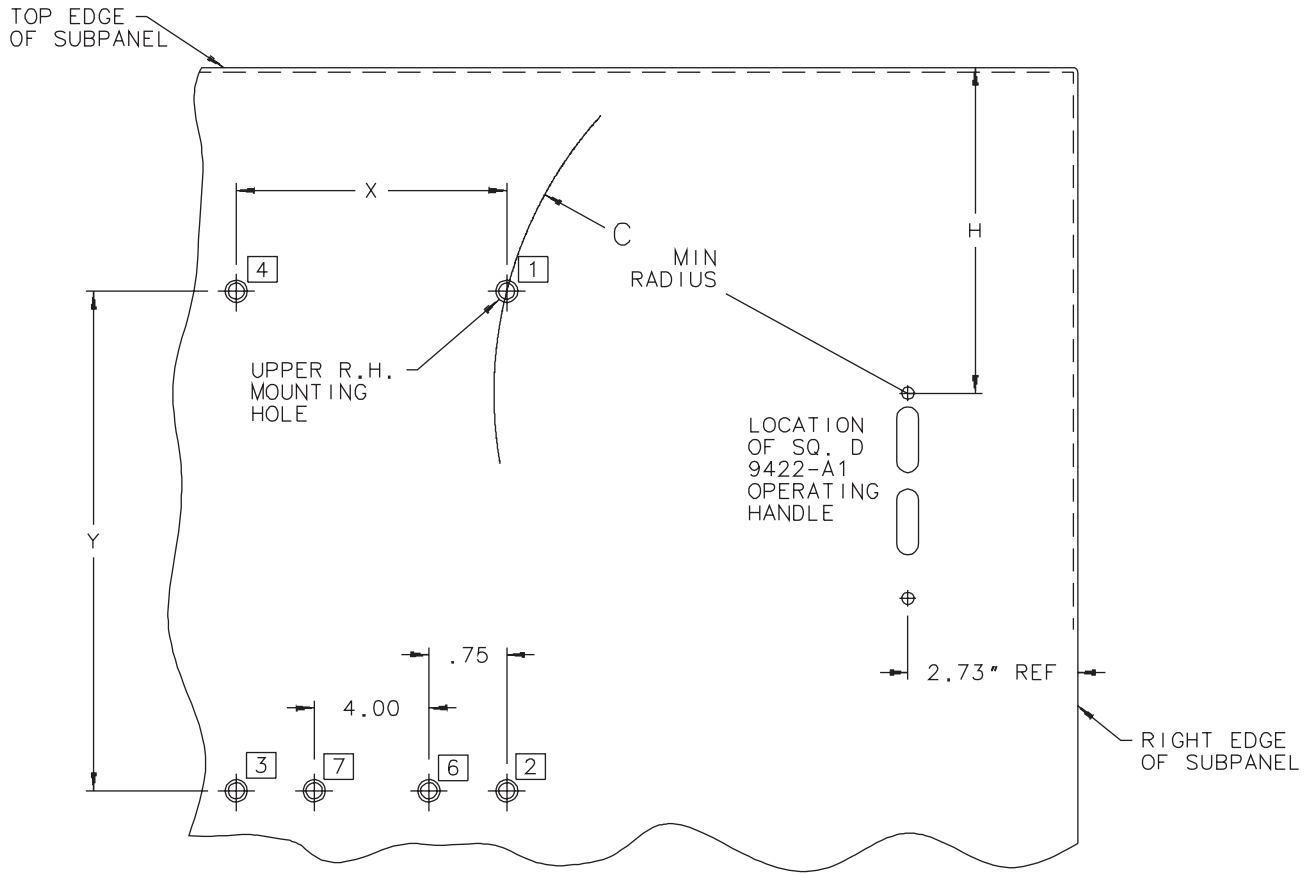

Figure 10
Step 1 – Determine disconnect hole pattern from Figure 10 and the above tables. See disconnect manufacturers instructions for range of disconnect location based on cable length being used and subpanel depth selected.